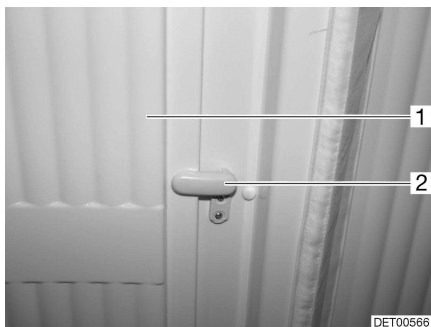

Fig. 108 Lock, toilet compartment panelling
- Put the latch (Fig. 108,2) in an upright position and unfold the inner part (Fig. 108,1) of the toilet compartment panelling.
- Fold up the inner part (Fig. 108,1) of the toilet compartment panelling and turn the latch (Fig. 108,2) to a horizontal position.